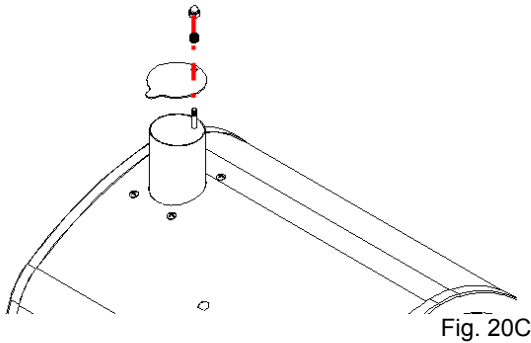

Fig. 20C
Attach the Smoker Stack Lid to the Smoker Stack Assembly using (1) M6 cap nut and (1) Spring as shown as Fig. 20C.